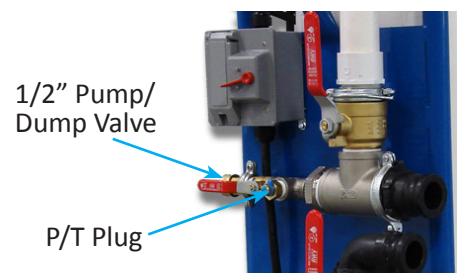

Figure 13: 1/2" Pump & Dump Valve
6. Insert pressure gauge with large dial face with a P/T adapter into P/T port on flush cart. Close 1/2" pump & dump valve (Figure 13).